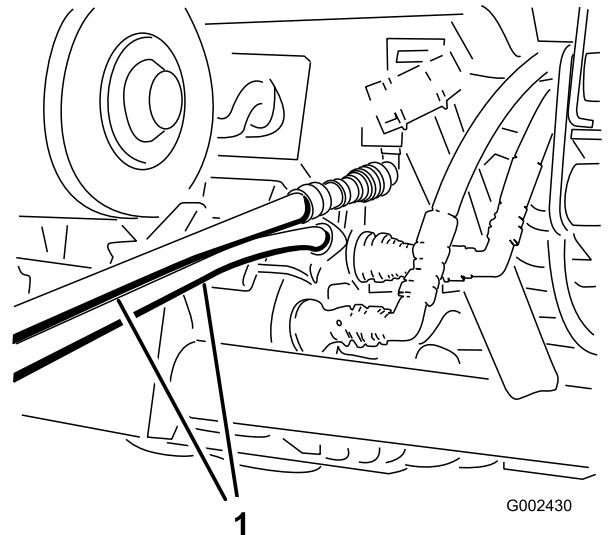

Figure 80
- On the other vehicle, connect the two hoses to the coupler still in the coupler bracket (Connect the top hose to the top coupler and the bottom hose to the bottom coupler (Figure 80). Cap unused fittings.